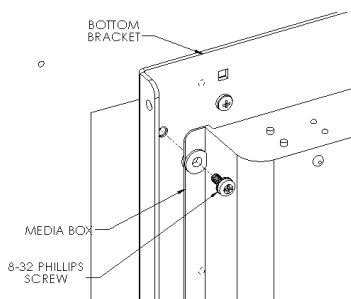
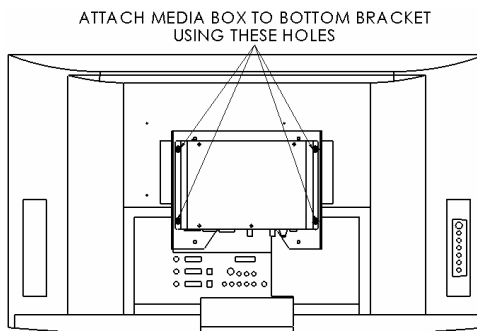

Figure 4
Figure 5
- Attach media box to bottom bracket using the 8-32 SEMS screws (see Figure 4 & Figure 5). Do not over tighten screws.